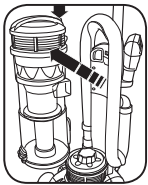

Fig. 5
1. Unplug the vacuum. Press the dust container release button to remove it from the vacuum (Fig. 5).